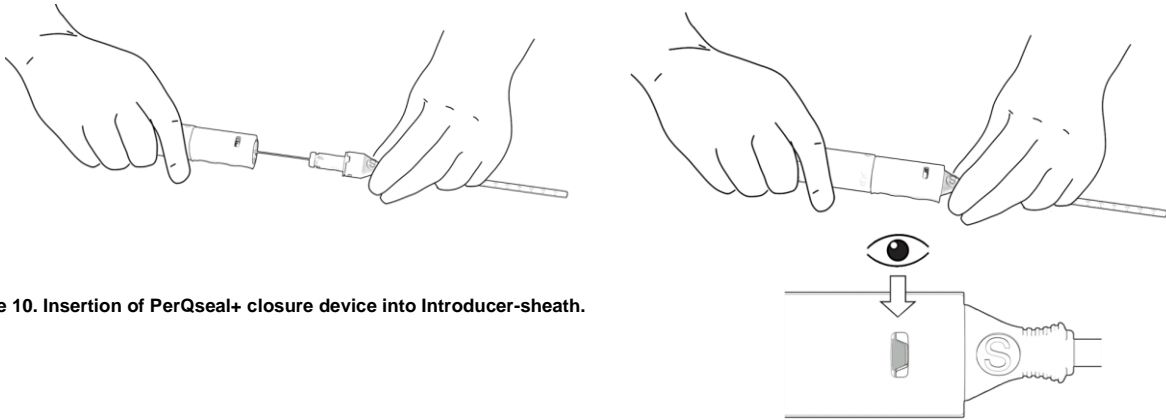

Figure 10. Insertion of PerQseal+ closure device into Introducer-sheath.
- Holding the Introducer-sheath hub in one hand and the device handle in the other hand, carefully advance the device handle. Ensure the indicators on the Introducer-sheath and handle are in alignment and the loading cannula/sheath hub assembly locks (with a click) into the device handle. Note the green indicator in the window. This confirms that the PerQseal+ closure device handle has been successfully locked. Figure 10.